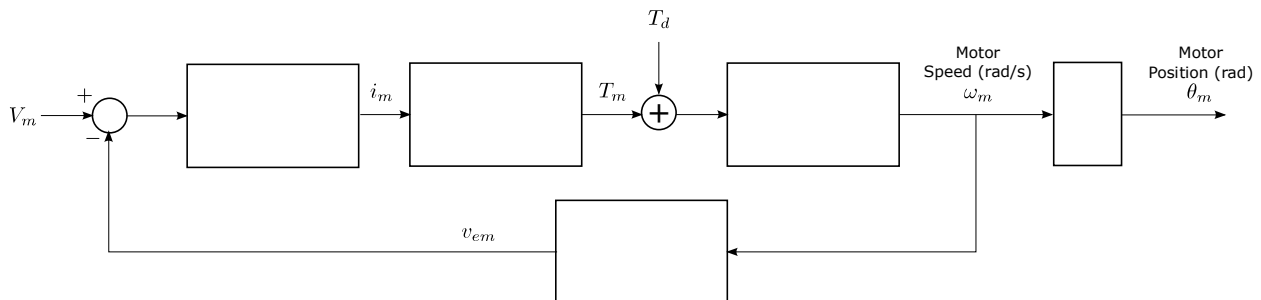

Figure II-1.2: Open-loop block diagram of the motor system (the plant)
- (5 pts) P-II-1.4. Use the findings so far to fill-in the empty blocks in the motor's open-loop block diagram of Fig. II-1.2. Note that the feedback shown in the figure is inherently natural due to the electromagnetic nature of the motor. In other words, it can never be removed, which is why the model is still referred to as the “open-loop” model despite that feedback.